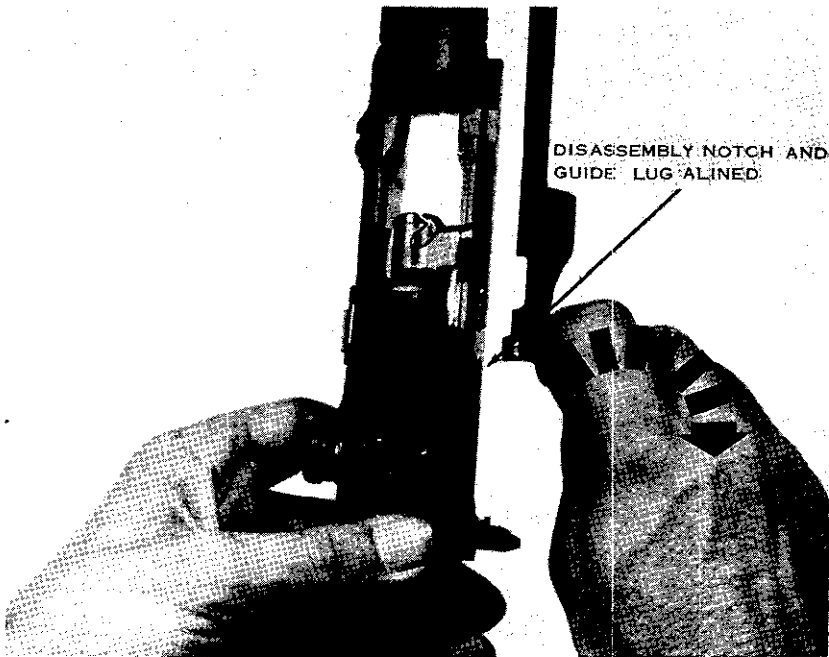

Figure 9. Removing operating rod.
ceiver group so the sights are up and the muzzle is pointing away from you. Pull back the operating rod handle until the guide lug on its inside surface is aligned with the disassembly notch on the right side of the receiver (fig. 9). Rotate the operating rod downward and outward, then pull it to the rear, disengaging it from the operating rod guide.
b. Replacing the Operating Rod. Hold the operating rod at the handle, place the front end into the operating rod guide, and position the rod so that the recess in the hump fits over the bolt roller. Turn the operating rod to the left until the guide lug will fit in the disassembly notch on the receiver as shown in figure 9, then move the operating rod forward until the bolt is closed.